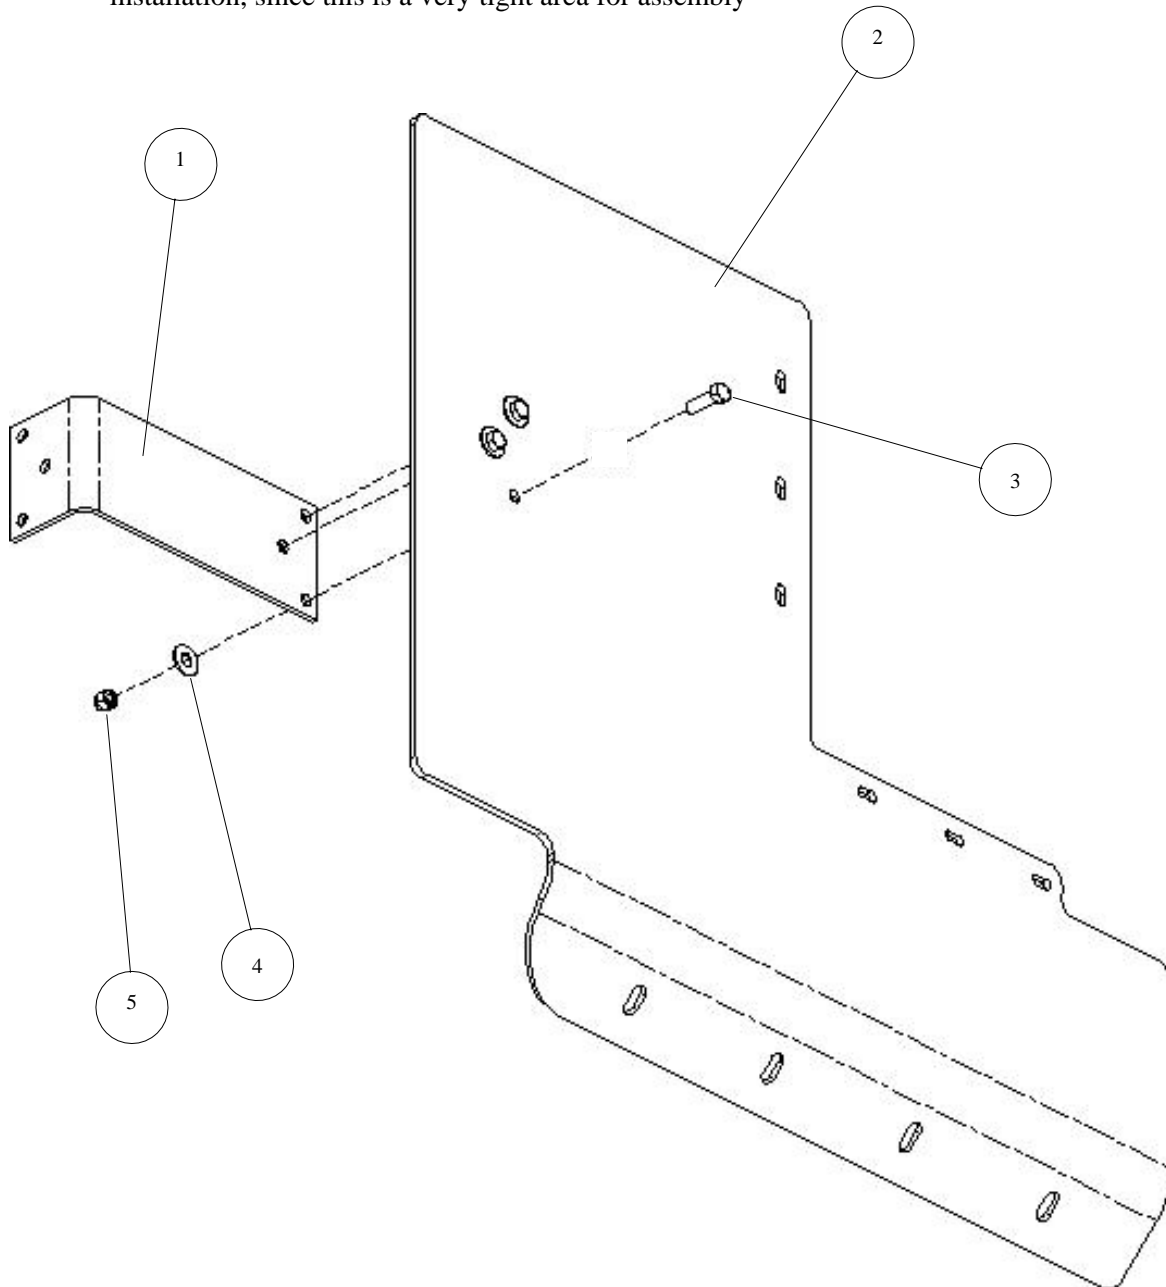

**Figure 3-45. Doghouse Right Panel Assembly Installation.**
7. Install doghouse right panel assembly as follows (see Figure 3-45):
- a. Install doghouse right panel assembly into doghouse and secure to doghouse inner brackets with six flat washers (1) and locknuts (2). Torque locknuts to 7 lb-ft.